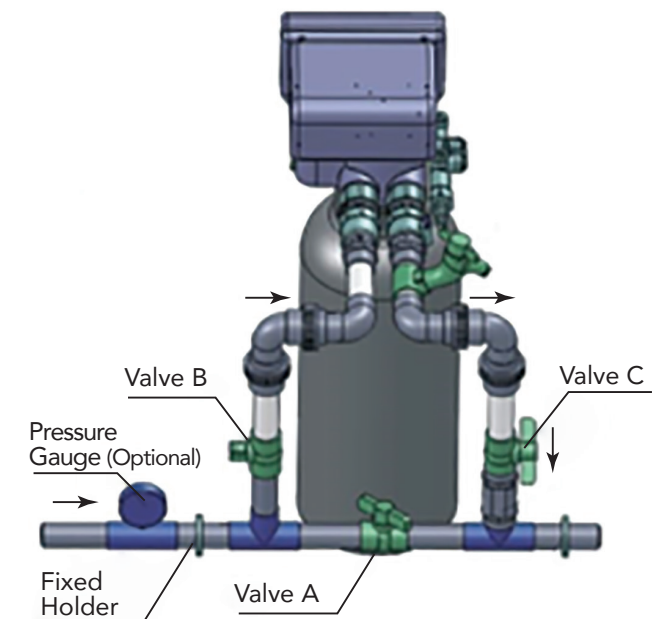

Figure 2 - Pipe Layoutt
11. Connect pipelines as shown in Figure 2.